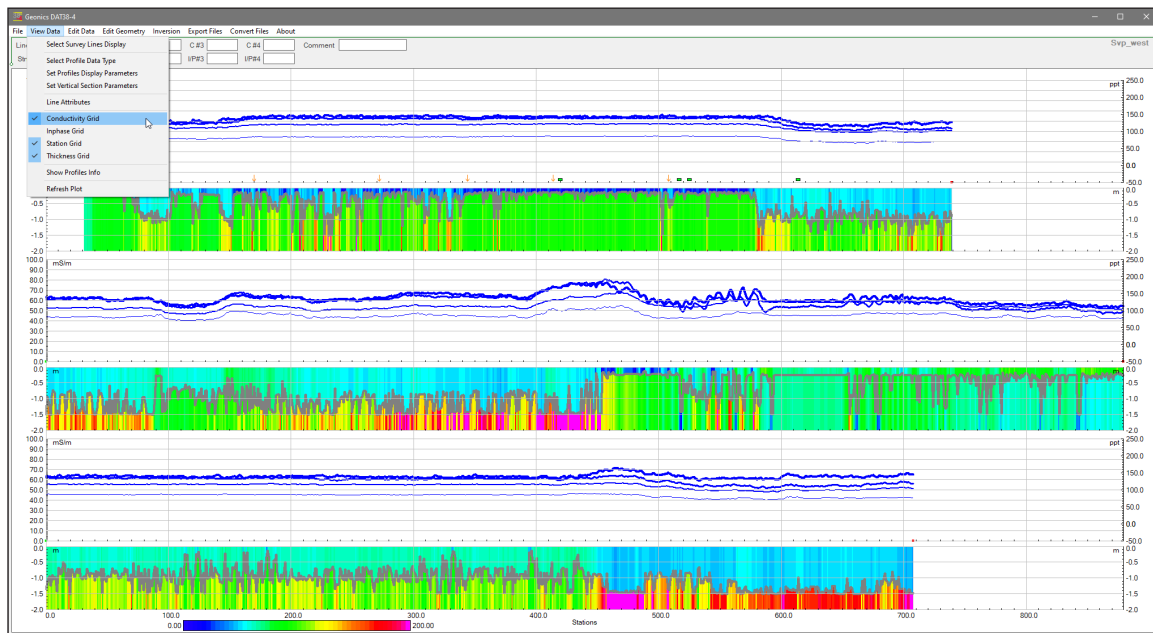

Figure 3.28 DAT38-4 screen with stacked profiles display while grid lines for conductivity, thickness, and stations are enabled
- Grid lines are drawn at major tick marks as light grey lines (Figure 3.28). These lines help examine anomaly alignment and compare anomaly amplitudes across survey lines.